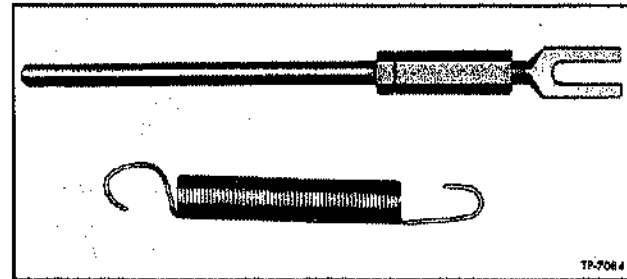

Figure 40—Adjustable Injector Rack Control Link and Spring
NOTE: Governor to control tube link is removed and engine speed must be controlled by hand or temporary adjustable link and spring at control lever tube. (Figs. 40 and 41.)
A. If adjustable link has been used it should be removed (Figs. 40 and 41).
C. Start engine and control speed manually by exerting force against torsion spring (36) with finger.